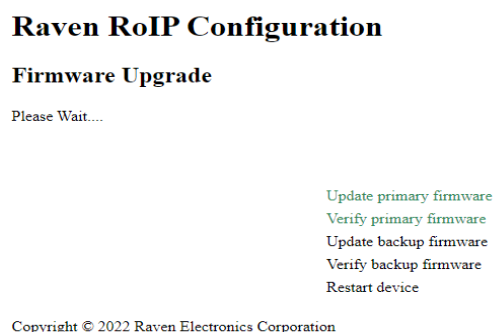

Figure 10-3: The firmware upgrade progress page when applying a new PYRA firmware.
4. The page will be redirected to look like Figure 10-3 to inform the user the process of the update. Once complete, the username and password login popup will appear indicating the update is complete.